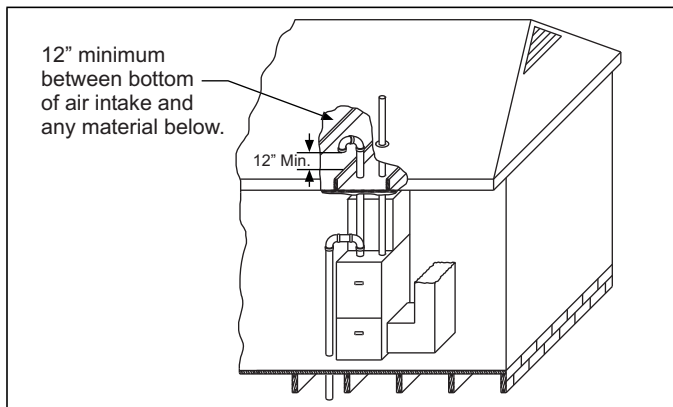

FIGURE 40: Attic and Crawl Space Combustion Air Termination
3. **VENTILATED COMBUSTION AIR:** Combustion air is supplied through a PVC or ABS pipe that is connected to the PVC coupling attached to the burner box and is terminated in a ventilated attic or crawl space. The combustion air and the vent pipes are not terminated in the same atmospheric zone. Refer to Figure 40 for attic and crawl space termination. Only the combustion air intake may terminate in the attic. The vent must terminate outside.